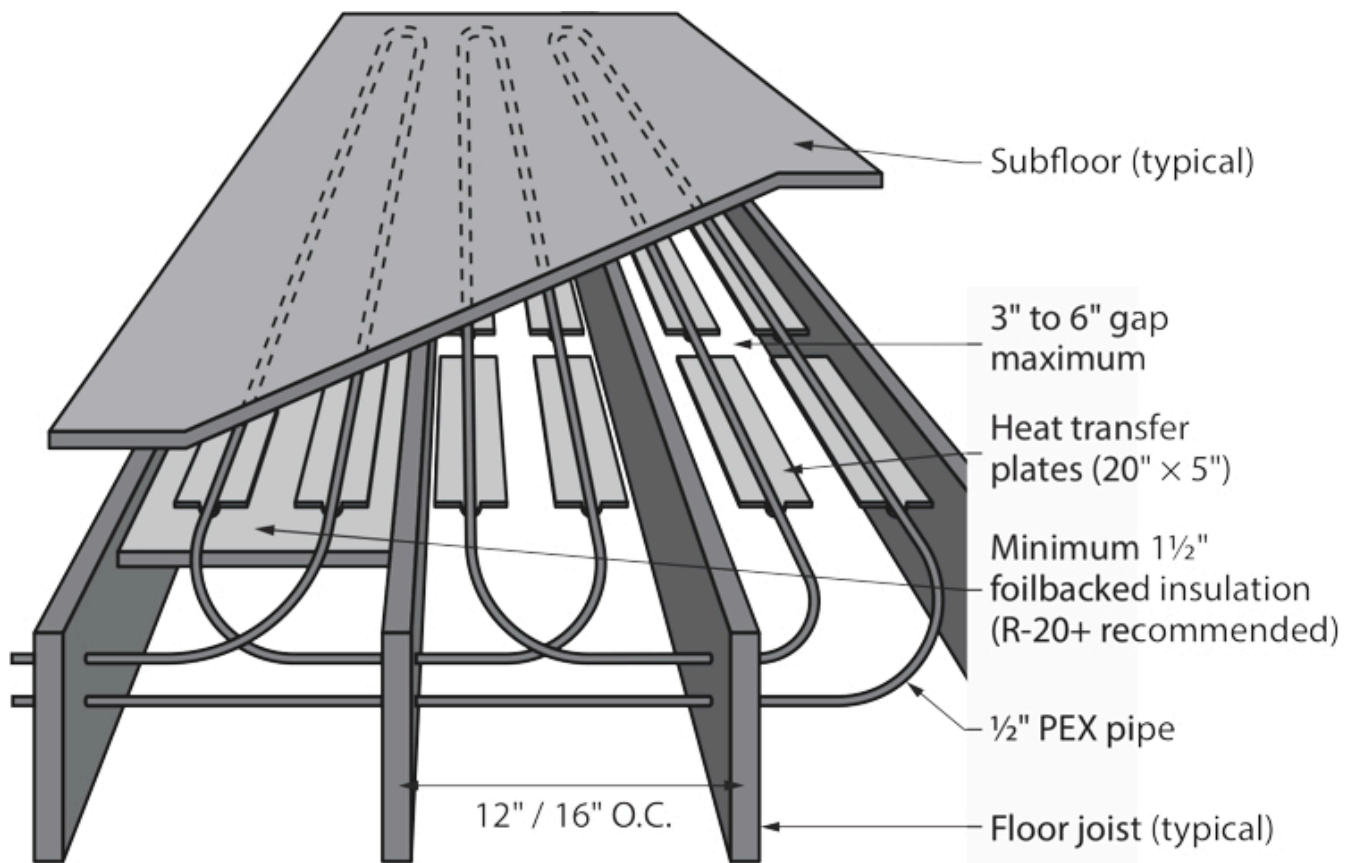

Figure 6 Typical in-joist dry system using aluminum plates
- Figure 6 Typical in-joint dry system using aluminum plates by ITA is licensed under a CC BY-NC-SA licence.